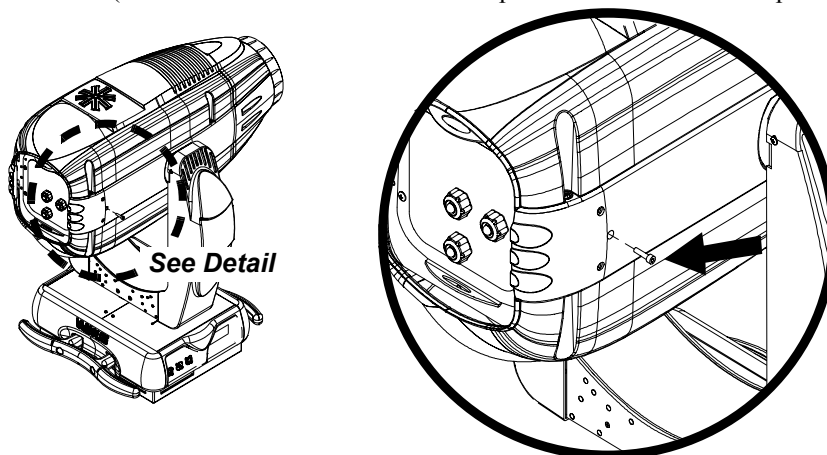
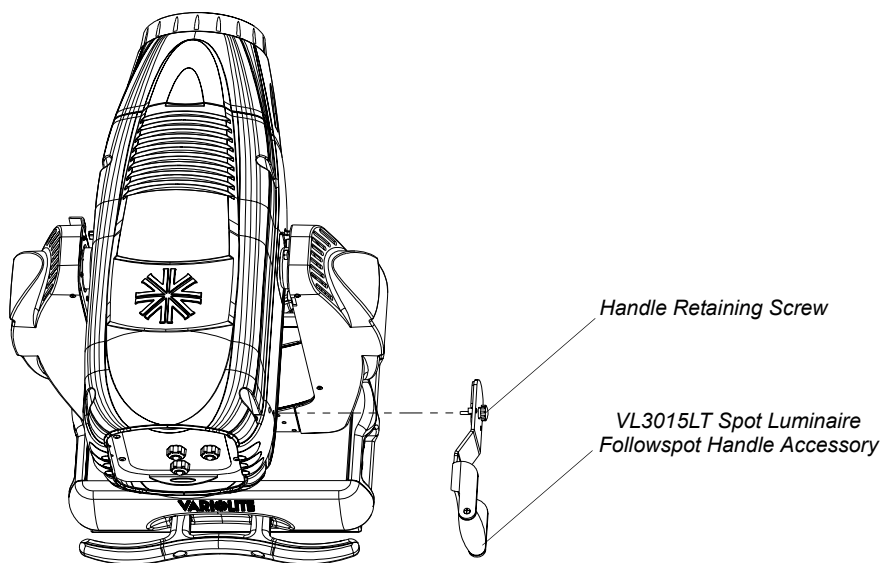

Figure 1: Rear Rail Screw Removal
Figure 2: VL3015LT Spot Luminaire Followspot Handle Installation
Note: Figure 1 and Figure 2 (on page 2) illustrate handle installation on the right side of the luminaire. The VL3015LT Spot Luminaire Followspot Handle can be installed on either side. Installation instructions are the same for either installation method. Up to two handles may be installed on a luminaire.
2. As shown in Figure 1, at desired side of luminaire, remove indicated screw from back portion of side rail. Keep screw in a safe place for later use (if handle is removed and luminaire placed back into normal operational service).
3. As shown in Figure 2, at desired side of Luminaire, position VL3015LT Spot Luminaire Followspot Handle where retaining screw is in line with screw hole (where screw was removed in previous step).